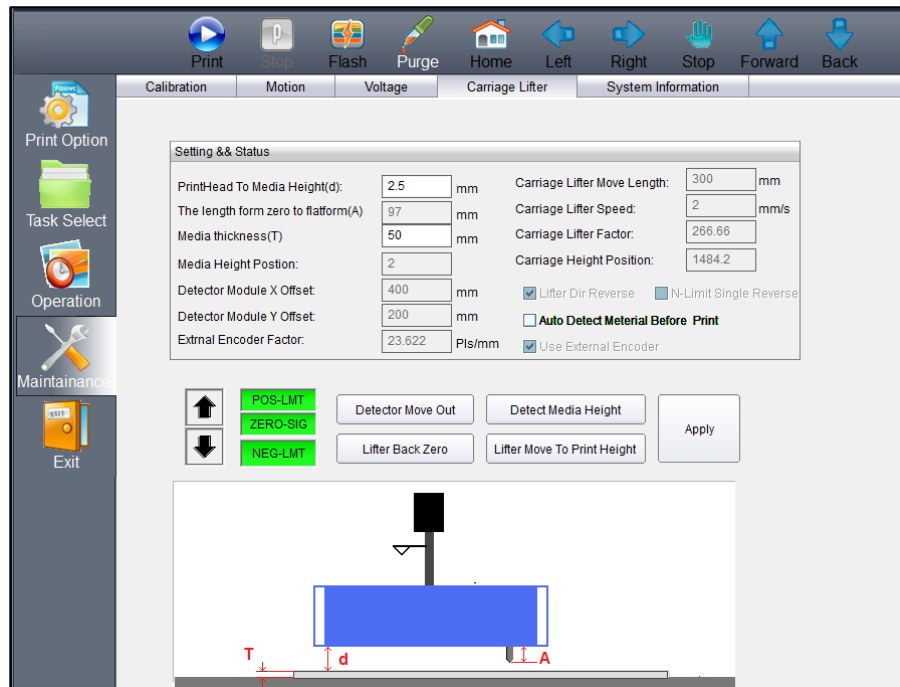

Fig 11: Detecting Head Height
**Step 12:** Press the **Detect Media Height** button to sense the media height (Refer to Fig 11).
**Step 14:** Lift the carriage up by pressing the **Lifter Back Zero** button on the **Carriage Lifter** tab under the **Maintenance** menu (Refer to Fig 11).
**Step 15:** Press the **Purging** button (Refer to Fig 11) and clean print heads using the tissue provided with the printer.
**Step 16:** Bring down the carriage by pressing the **Lifter Move to Print Height** button (Refer to Fig 11)
- After providing offset details, click on the **Apply** button (Refer to Fig 11).